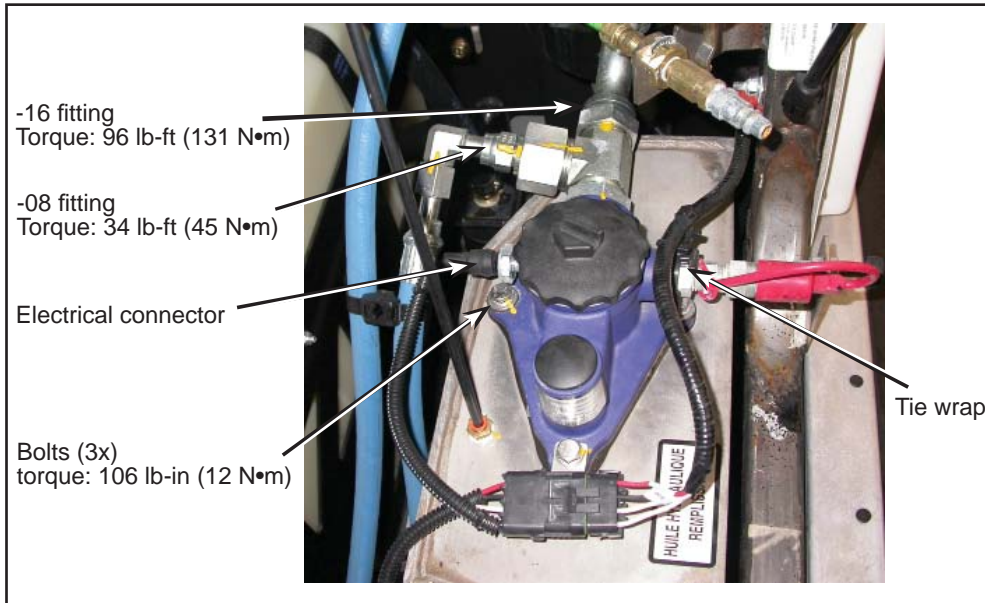

Figure 5 - Filter Housing Installation
- 1.8. Install the retained hardware: the three bolts and the electrical connector's bracket. Apply thread sealant. Torque to the specified value. Apply Torque Seal paint. See Figure 5.
- 1.9. Install the two hydraulic hoses. Torque the fittings to specified value. Apply Torque Seal paint. See Figure 5.
- 1.10. Connect the electrical connector. See Figure 5.